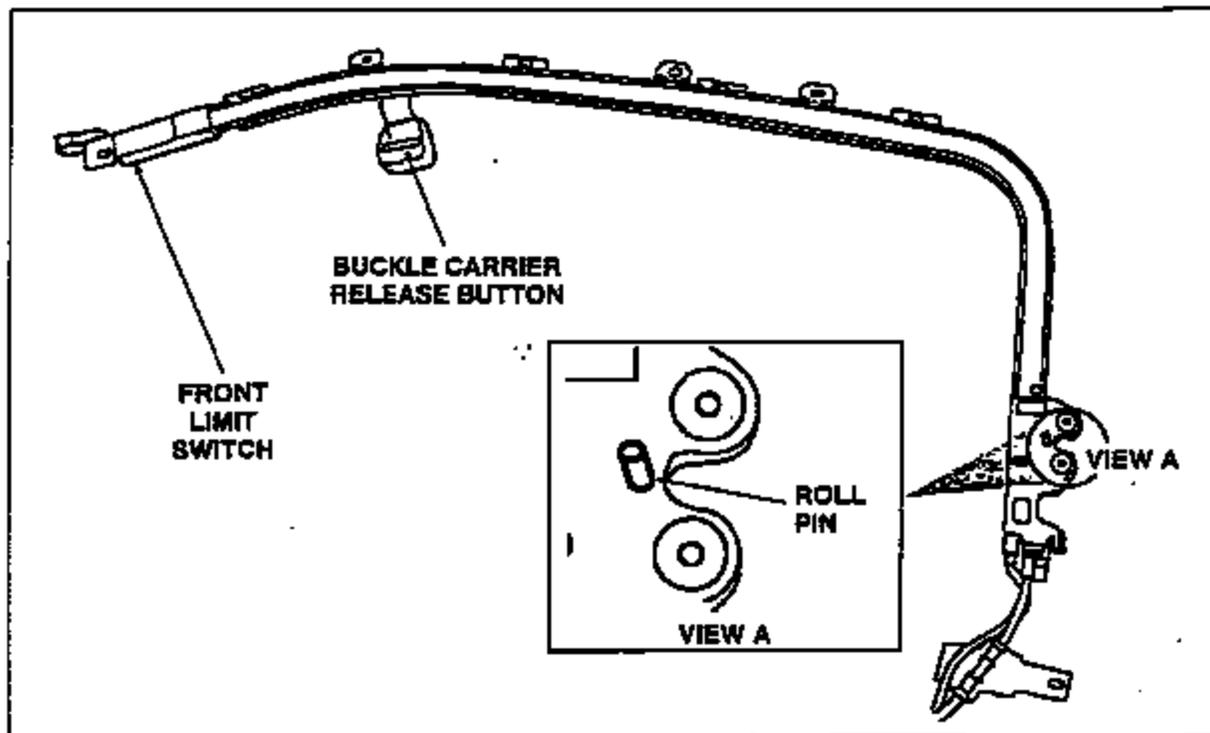

FIGURE 8
14. Place rail and motor assembly on bench with outboard side facing up. The red release button on the buckle carrier should be facing upward. Refer to Figure 8.
15. Remove roll pin. See Figure 8.